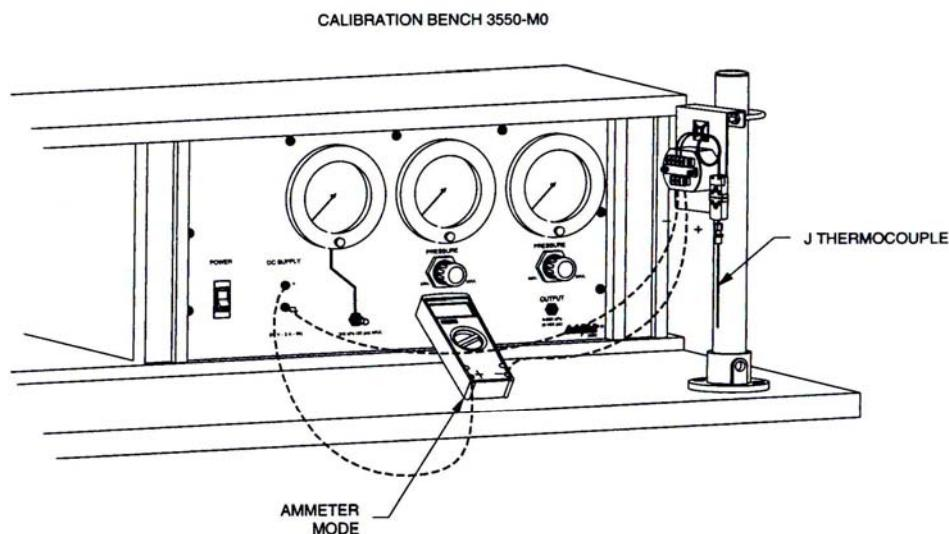

Figure 4-1. Calibration of a Thermocouple Transmitter.
- 3. Set the digital calibrator of the Calibration Bench for a millivolt output. Connect the leads to the thermocouple input on the transmitter. Connect the output of the transmitter in series with the 24 V dc Power Supply and the digital multimeter (DMM) of the Calibration Bench (placed in ammeter mode). Note the circuit polarity as shown in Figure 4-1.